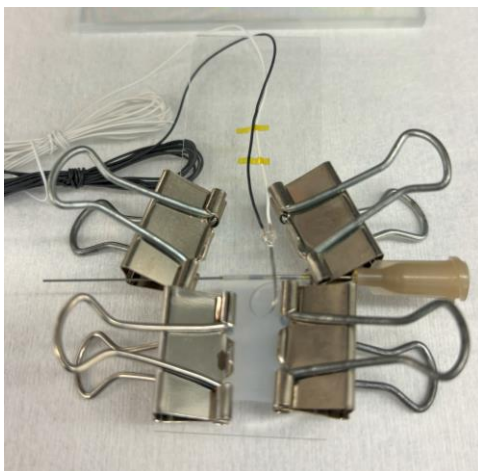

Figure 5-8: Fixtured device with two clamps holding the mandrel to the glass slide and two clamps holding the Teflon film to the glass slide.
14. While holding the film taut, place one clip to hold the Teflon film to the glass slide as close to the rolled device as possible without causing damage, then release the film and place a second clip on the other side of the Teflon film (see Figure 5-8)